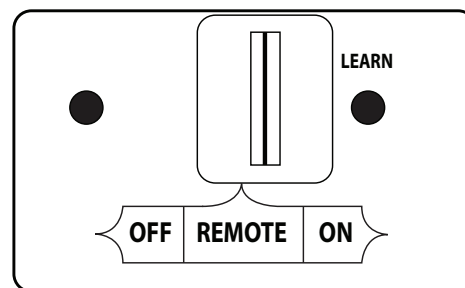

Fig. 41-1 Remote receiver detail (ON)
1. Locate the 3-position switch on the remote receiver (see Fig. 41-1), and slide the switch to the **ON** position.